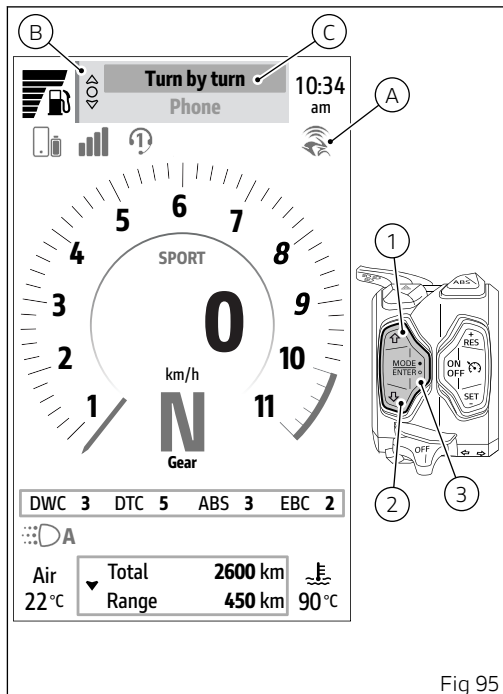

Fig 95
- Select the Interactive Menu (B, Fig 95) by pressing and holding button (1) down for a long time.
- Use buttons (1) and (2) to select item "Turn by turn" (C, Fig 95) and press the ENTER button (3).